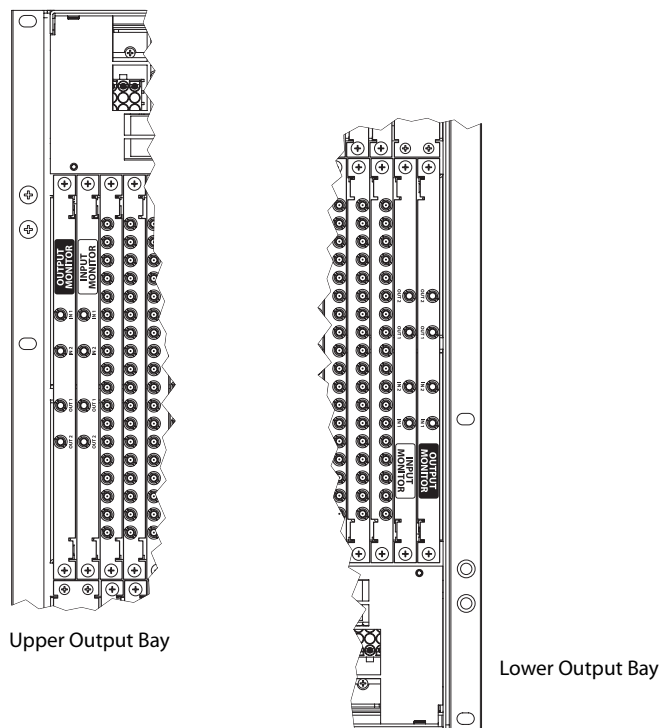

Figure 2-23. Monitor Backplanes
- 1 Locate the output monitor backplanes. Figure 2-23 is an example of the NV8576/NV8576-Plus router:
- NV8576/NV8576-Plus—there are four monitor backplanes: two are located in the upper left-hand corner and two in the lower right-hand corner next to the output cards, as shown in Figure 2-23.